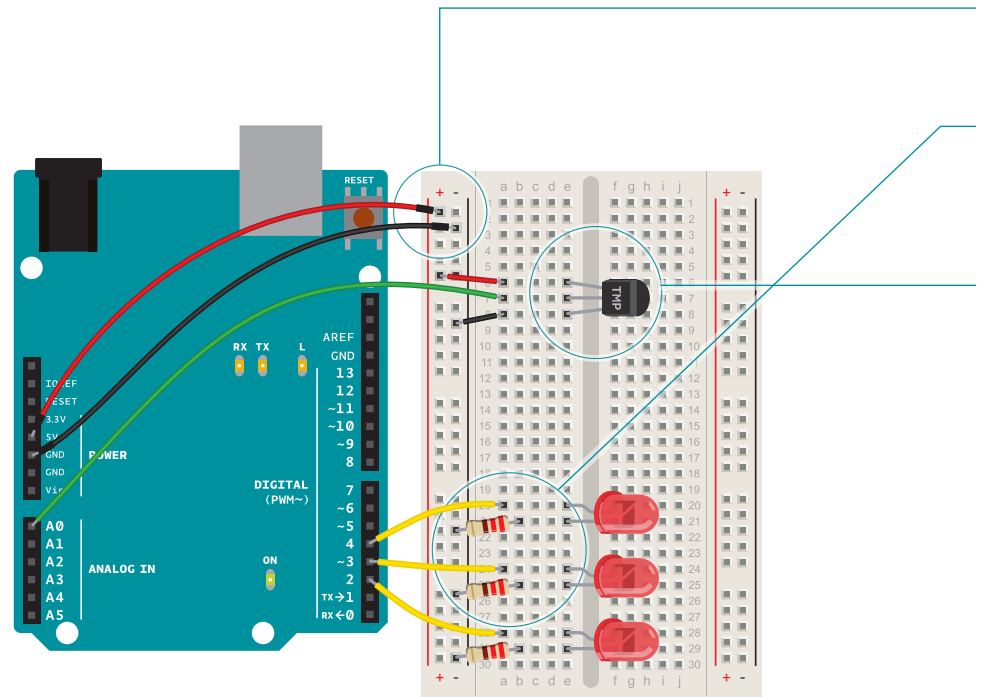

Fig. 2
- 3 Place the TMP36 on the breadboard with the rounded part facing away from the Arduino (the order of the pins is important!) as shown in Fig. 2. Connect the left pin of the flat facing side to power, and the right pin to ground. Connect the center pin to pin A0 on your Arduino. This is analog input pin 0.